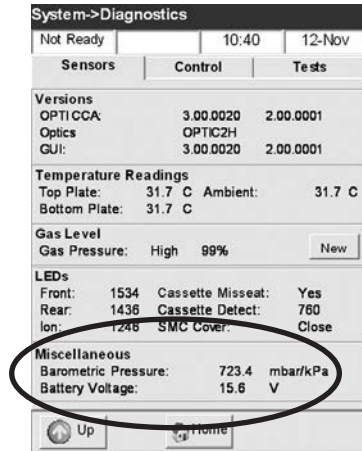

Fig. 7-7 Battery Voltage
- The second display in the **<Miscellaneous>** section shows the battery voltage (Fig. 7-7).